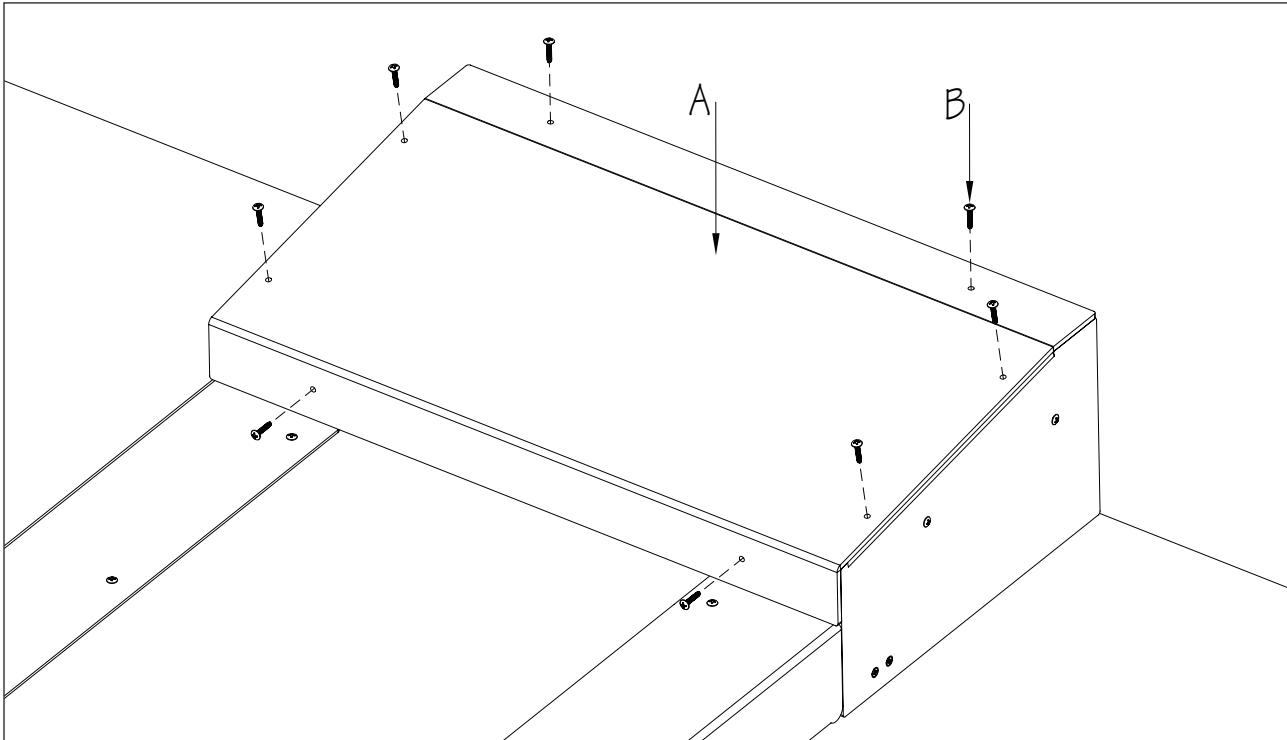

Fig. 17
5. Attach the Lower Cover (A) using the 1" (25mm) Phillips Truss Head Screws (B) (Fig. 17).